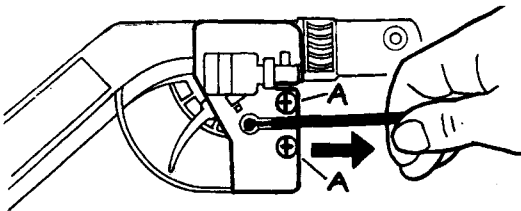

FIG 38
1. Loosen 2 switch trigger cover screws (A). Pull outer cable forward and lift inner cable and lug out of slot in cover (Figs 38 & 39).